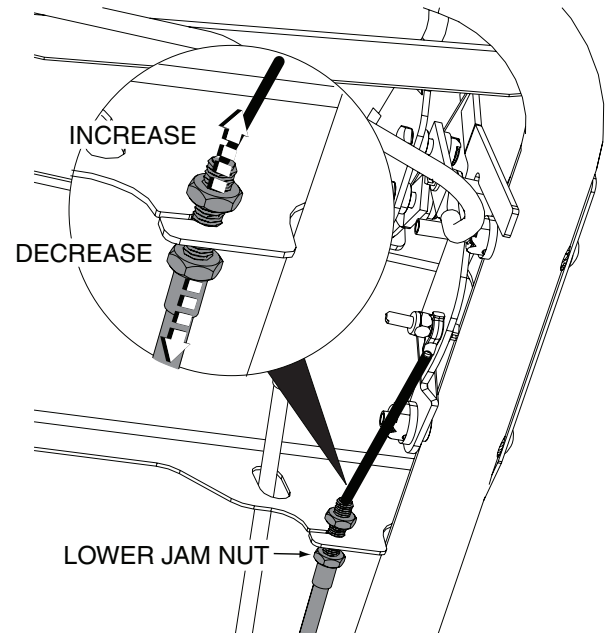

Figure 6-2. Parking Brake Cable Adjustment
4. Adjust the cable by moving the threaded shaft in the hole in the handle bar bracket, up to increase tension and down to decrease tension on the cable. See Figure 6-2.
7. While holding the cable in place, turn the lower jam nut until it is tight against the handle bar bracket. See Figure 6-2.